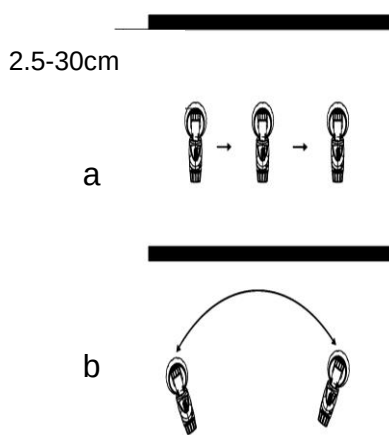

Fig 1
- **Correct (Fig. 1 a)** Be sure to hold the spray gun at an even distance of approx. 2.5- 30 cm to the target object.
- **Incorrect (Fig. 1 b)** · Heavy spray fog build-up, uneven surface quality.